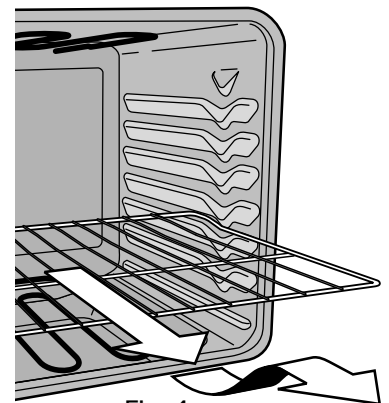

Fig. 4
**To remove** - Pull the oven rack straight out until it reaches the stop position. Tilt up front of oven rack to slide past the stop position and pull the rack out of the oven cavity (Fig. 4).
5. While holding the connector arm in place, twist the connector arm so the ends of the connector arm point **upwards** (See Figs. 4 & 5). The connector arm should now be locked into position.